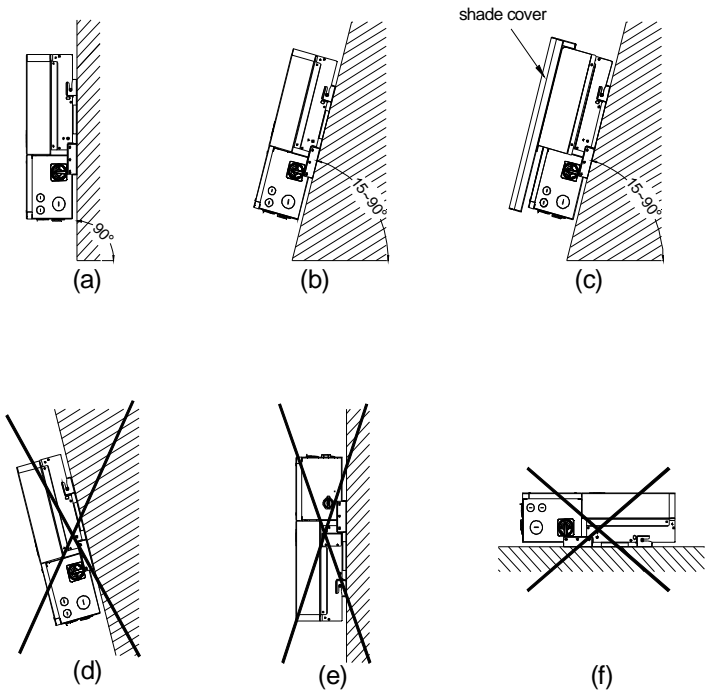

Figure 3-2 Inverter Mounting Options
3.2.2 Installation Method (see Figure 3-2):